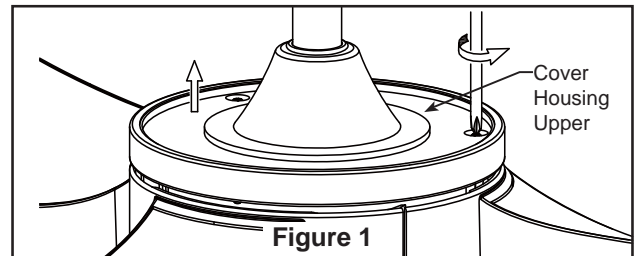

Figure 1
1. Remove cover housing upper by unscrewing the two screws. (Figure 1)